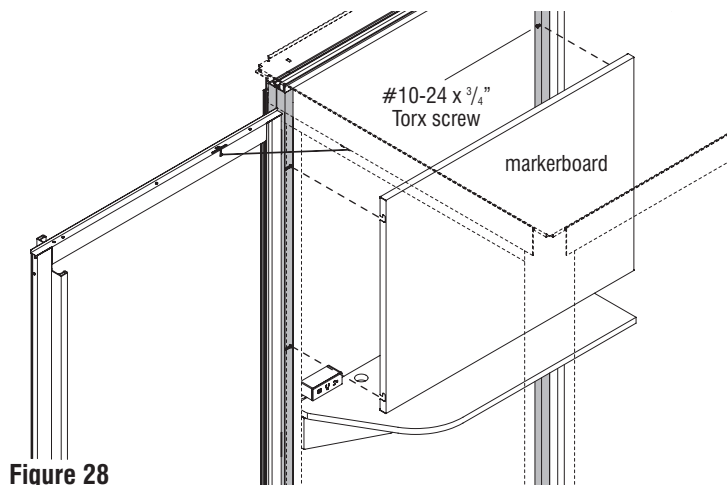

Figure 28
3. Markerboards have four slots that act as hooks to engage each $\frac{1}{4}$ -20 x $\frac{1}{2}$ " Torx screw on the side wall frame. Position the markerboard with the upward cutout of the slots facing up, next to the four screws. Align the horizontal section of the slot with the screw and press the markerboard in so the slots enclose the screws. Then slide the markerboard downward to engage the screws (Figure 28, Details B3 & C3).